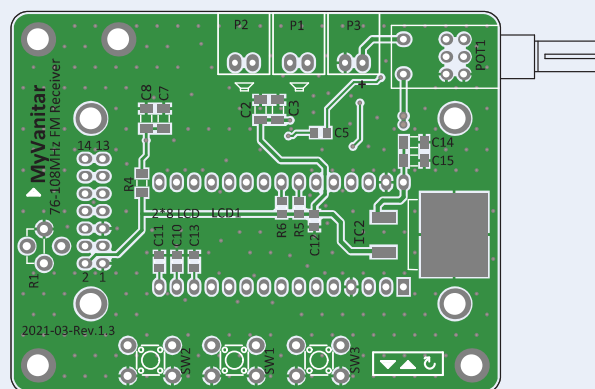

Figure 5: PCB layout of the receiver.
**Figure 5** shows the PCB layout of the digital FM receiver. You can download the PCB's Gerber and drill files of the author from the project's page on the Elektor Labs website [4]. You can order the board from your preferred supplier.